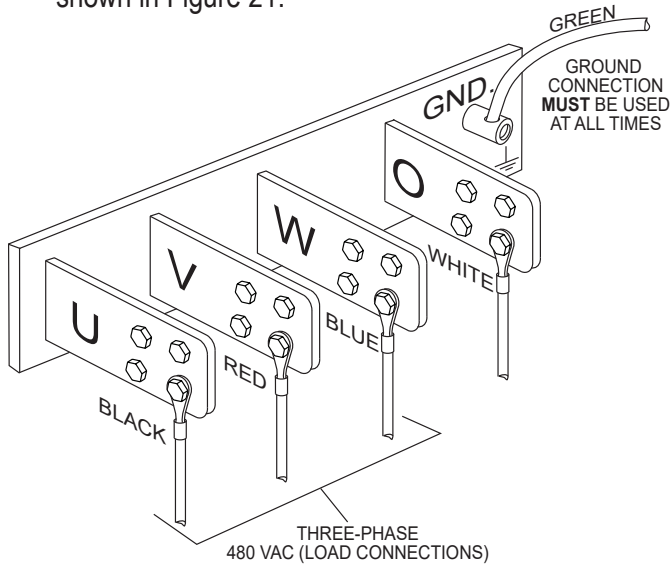

Figure 21. UVWO Terminal Lugs (3-Phase 480-Volt Connections)
2. Connect the load wires to the UVWO terminals as shown in Figure 21.